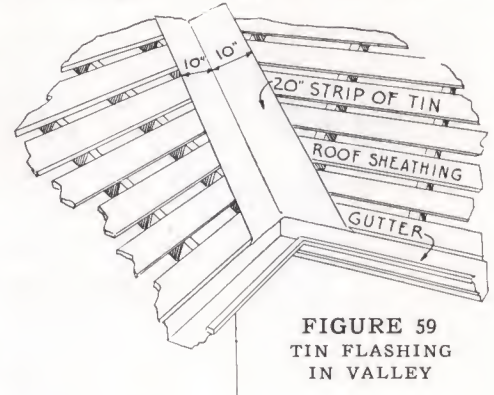
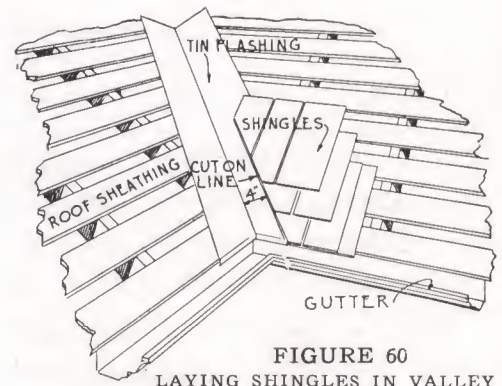

FIGURE 59
FIGURE 60
- (a) Before putting on any wooden or asphalt shingles, all parts of the roof are to be properly flashed with tin. In any valleys formed between two roofs lay a continuous strip of tin 20 inches wide, half to be laid on each roof (see Figure 59). Nail this down along the edge with 3-penny galvanized shingle nails. In shingling into this valley keep the edge of the shingle about 4 inches away from the center of the valley (see Figure 60). It is necessary to cut the shingles to fit this line.